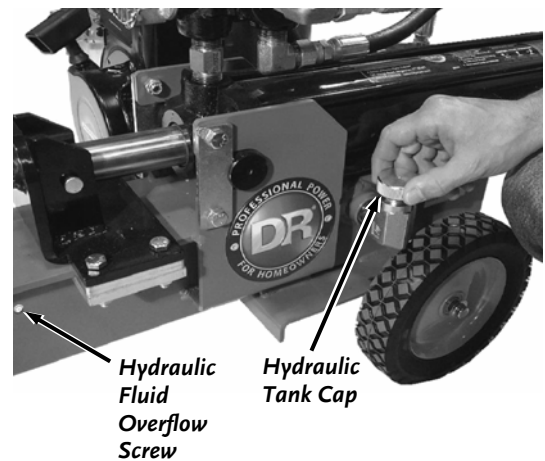

Figure 14
1. Ensure that the Splitter is on a flat, level surface and remove the Hydraulic Tank Cap and the Hydraulic Fluid Overflow Screw from the Hydraulic Tank (**Figure 14**).